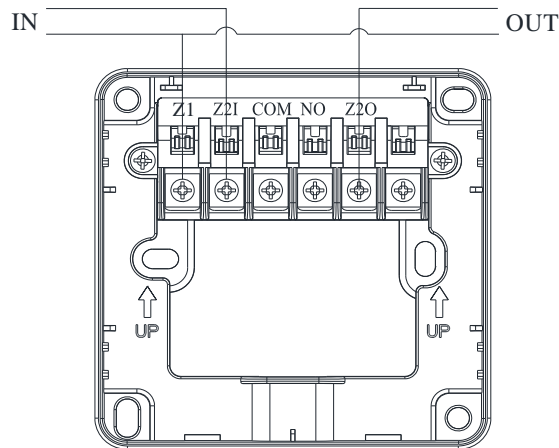

Fig. 4 Terminal description
5.3 Terminal description (as shown in Fig. 4)
This manual button is non-encoded type, and not required to make encode setting. It is used according to wiring type in Fig. 4.